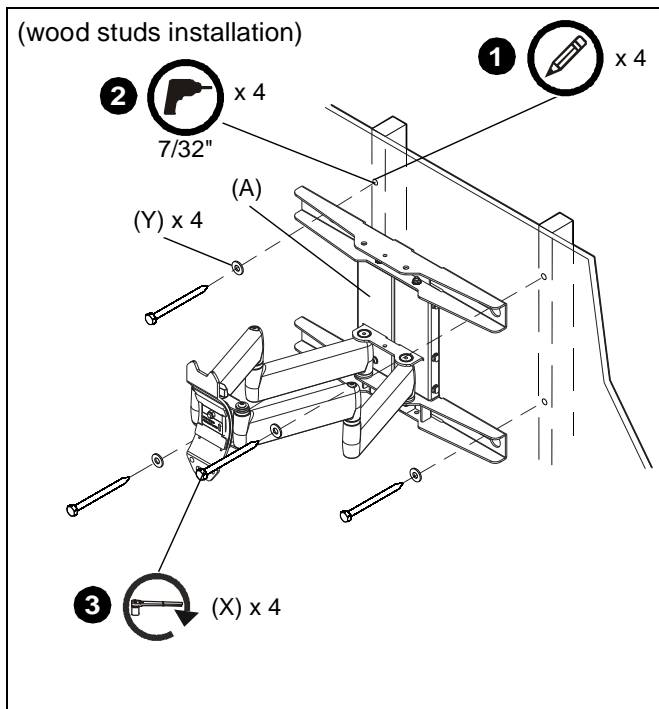

Figure 1
1. Level arm assembly/wall plate (A) and mark locations of pilot holes. (See Figure 1)
2. Drill four 7/32" pilot holes at marked locations. (See Figure 1)
3. Install four 5/16 x 3 1/2" lag screws (X) through four flat washers (Y), arm assembly/wall plate (A), into drilled holes. (See Figure 1)